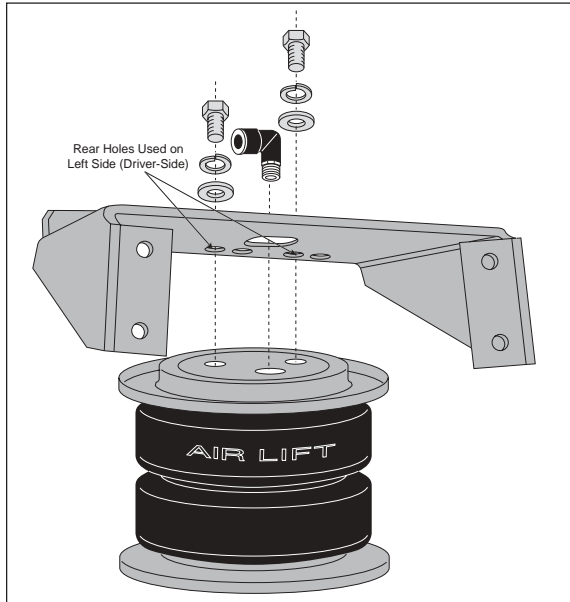

Figure 2
1. Set a roll plate (D) on both ends of the air spring (A). The radiused (rounded) edge of the roll plate will be towards the air spring, so that the air spring is seated in both roll plates (Figure 2).
2. Install 90° elbow fitting (E) to the top of the air spring. Tighten finger tight plus 1 and $\frac{1}{2}$ turns. Be careful to only tighten on the metal hex nut. Do not over tighten.
3. When installing the upper bracket (B) to the air spring and roll plate, use the rear-ward holes for the left (driver-side) installation and, when installing the bracket on the right side (passenger-side) of the vehicle, continue to use the rear-ward most holes (Figure 2). The upper bracket is marked "L" and "R" on the top. Attach the assembly using two $\frac{3}{8}$ " bolts (I), lock washers (L), and flat washers (K). Tighten hardware to 20 ft-lbs.